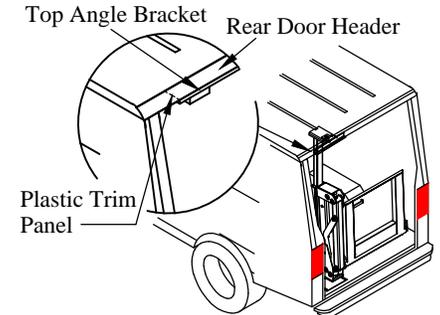

Figure 9: Liftgate in rear opening.
- 3. Position** the liftgate in the rear opening such that the top angle bracket comes in contact with the rear door header (Figure 9). The angle bracket butts up against the plastic trim panel on the driver side of the header.